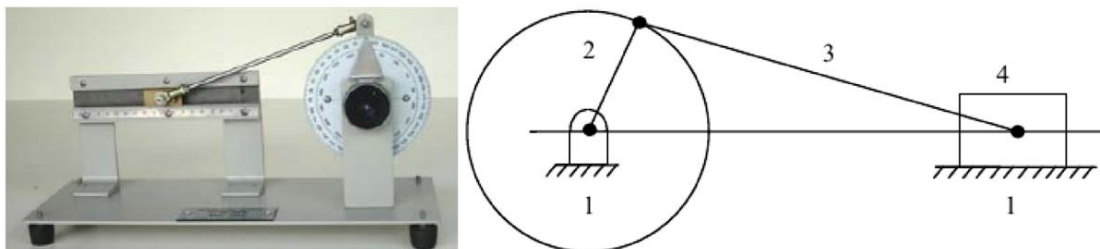

Figure 4.3-1: Slider crank mechanism: apparatus and schematic.
- Lab model crank-slider mechanism (Figure 4.3-1). This consists of Crank-Coupler-Slider links.